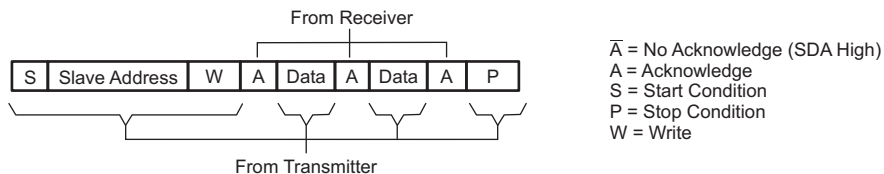
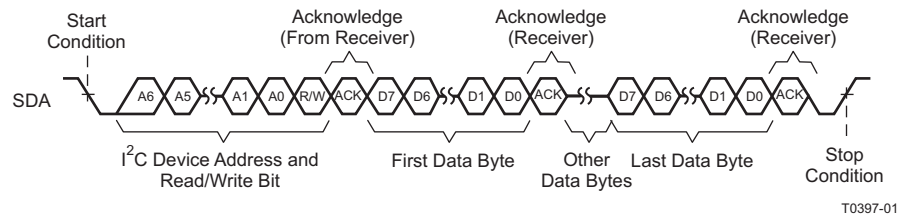
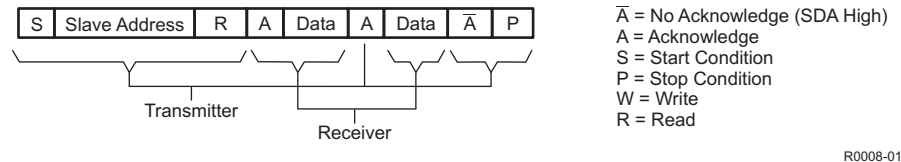
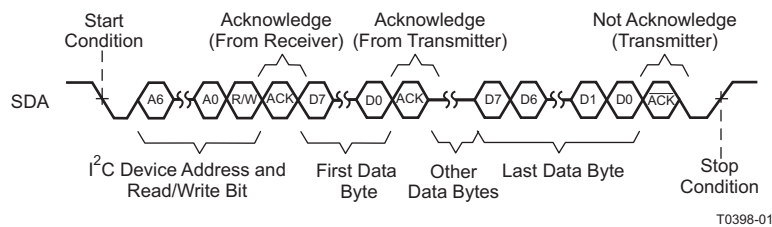

Figure 52. I²C Write Cycle
Figure 53. Multiple-Byte Write Transfer
Figure 54. I²C Read Cycle
Figure 55. Multiple-Byte Read Transfer
- The master generates further SCL cycles to either *transmit* data to the slave (R/W bit 0) or *receive* data from the slave (R/W bit 1). In either case, the *receiver* must acknowledge the data sent by the *transmitter*. So an acknowledge signal can be generated either by the master or by the slave, depending on which one is the receiver. The 9-bit valid data sequences consisting of 8-bit data and 1-bit acknowledge can continue as long as necessary (See Figure 52 through Figure 55).
During a write cycle, the transmitting device must not drive the SDA signal line during the acknowledge cycle so that the receiving device may drive the SDA signal low. After each byte transfer following the address byte, the receiving device pulls the SDA line low for one SCL clock cycle. A stop condition is initiated by the transmitting device after the last byte is transferred. An example of a write cycle can be found in Figure 52 and Figure 53. Note that the TMD5361B allows multiple write transfers to occur. See the Example – Writing to the TMD5361A section for more information.
During a read cycle, the slave receiver acknowledges the initial address byte if it decodes the address as its address. Following this initial acknowledge by the slave, the master device becomes a receiver and acknowledges data bytes sent by the slave. When the master has received all of the requested data bytes from the slave, the not-acknowledge ($\bar{A}$) condition is initiated by the master by keeping the SDA signal high just before it asserts the stop (P) condition. This sequence terminates a read cycle as shown in Figure 54 and Figure 55. See the Example – Reading from the TMD5361A section for more information.